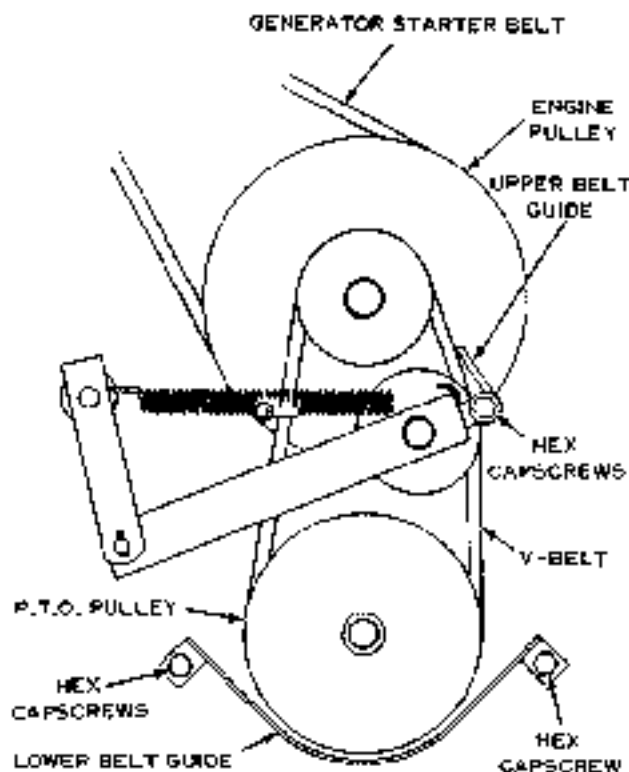

Figure 19
3. With the P.T.O. lever still in the ON position, loosen the hex capcrew which secures the upper belt guide shown in Figure 19. Adjust upper belt guide for 1/8 to 1/4 inch clearance between belt and belt guide. Tighten hex capcrew securely.
P.T.O. BELT ADJUSTMENT (See Figure 19)